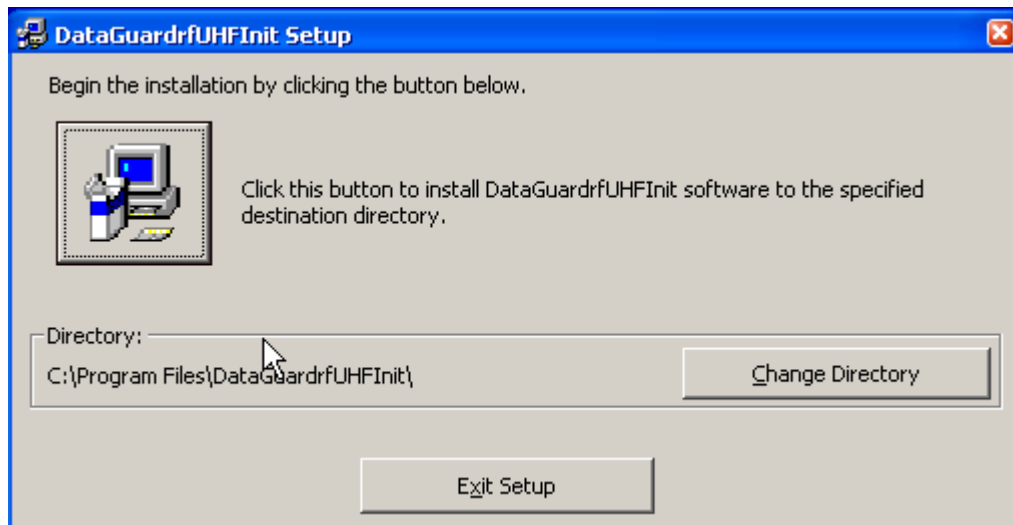

Figure 2
- H. Select the installation folder where the DataGuard rf program will appear (Figure 2).